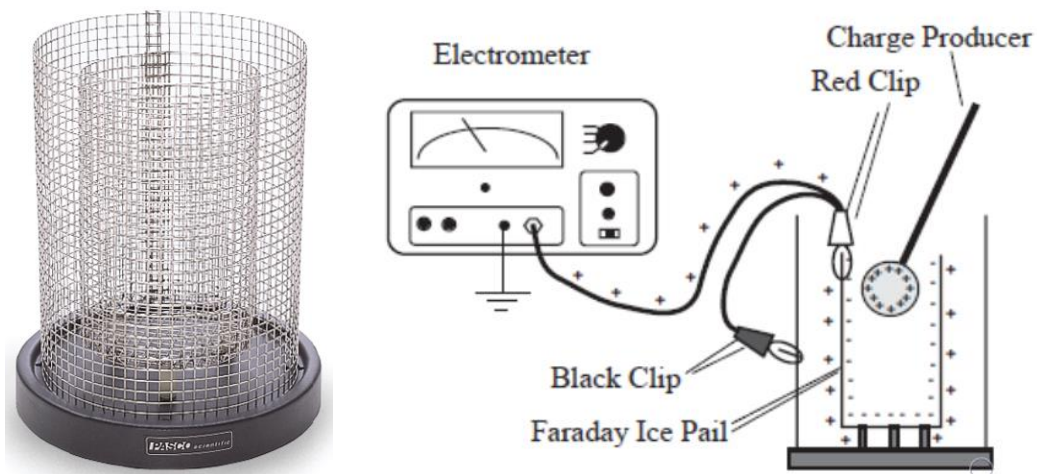

Figure 2.7 Faraday ice pail
It is obtained by placing two intertwined conductive cages on an insulating table. While measuring, a red-alligatored clip is attached to the inner cylinder and a black-alligator clip is attached to the outer cylinder (Figure 2.7).
- The charge producer was charged as a result of electrification by touch. Then, without wasting time, bring the charge producer rod closer to the inner cylinder in the Faraday ice pail without touching it, as in Figure 2.7. In this case, the inside of the inner cylinder of the Faraday ice pail is charged with the same amount as the rod. But its sign is in contrast with the charge sign of the charge producer rod.
- In electrification by touch, charges are shared in direct proportion to the surface area (A). Therefore, the area of the rod and the plate of the capacitor must be calculated in order to determine the charge stored on the capacitor. Thus, the charge $Q_{capacitor}$ of the capacitor can be calculated with the direct proportion to be established between the area of the rod (A_{rod}) and the area of one of the plates of the capacitor ($A_{capacitor}$).